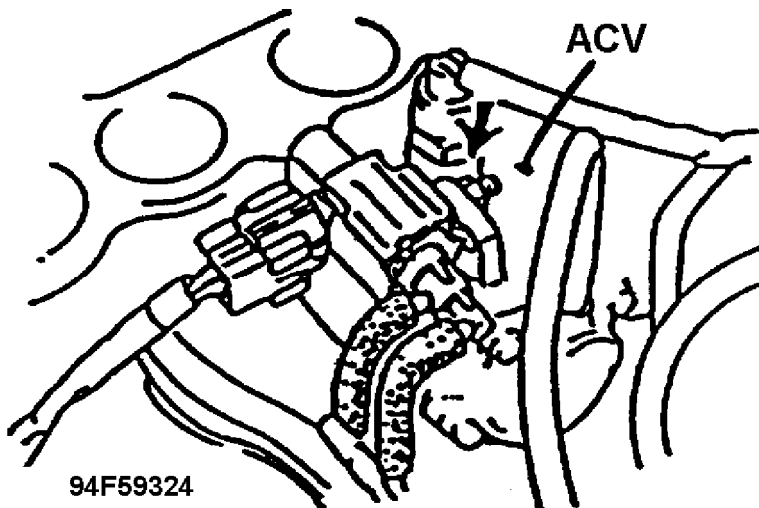

Fig. 11: Three-Way Solenoid Nut to be Removed
19. Remove the nut shown in Fig. 11. Remove the three-way solenoid.